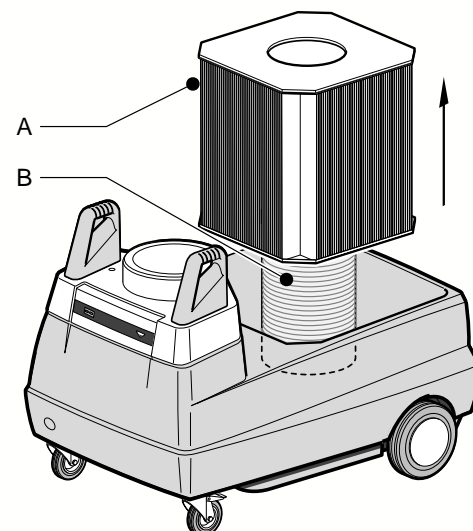

Fig. 18
4. Lift the filter cartridge (Fig. 18, Item A) up and out of the machine. It is not necessary to remove the spark arrester (Fig. 18, Item B). Clean the spark arrester and filter compartment with a vacuum cleaner.